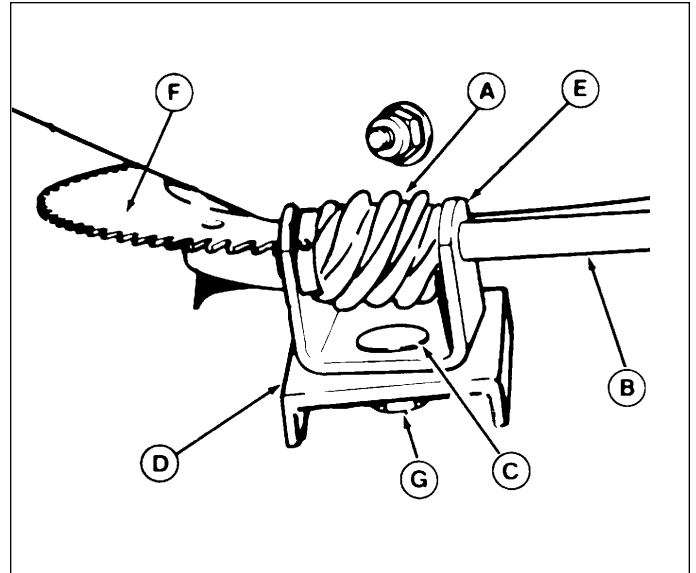

Figure 27. Discharge Control
If the discharge chute is difficult to operate, first lubricate the pinion gear (A, Figure 27) and ring gear (F, Figure 27). If it is still difficult to operate, adjust as follows:
1. Loosen the nut (G, Figure 27) which holds the pinion gear bracket in the slotted hole.